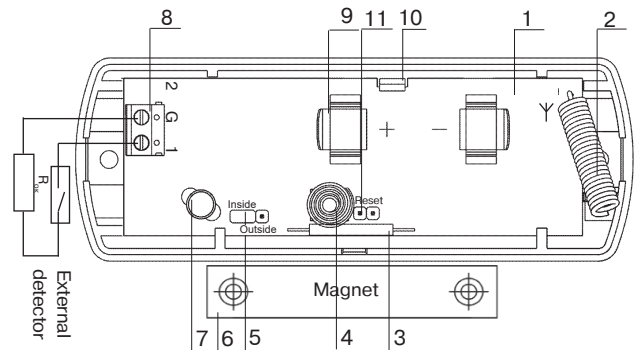

Figure 1 – «Ladoga MK-RK» ver. 3
8.1 Jumper (pic. 5, fig. 1) is in the «OUTSIDE» position. Only «G 1» line is controlled, the position of the built-in reed switch is ignored.
9.2 Install the PCB, connect the wires of monitored loops to terminal blocks (8) and close the cover. The length of the loops must not exceed 5 m. Install the terminal (EOL) resistor R_{term} (5.1 k Ω) at the end of the loop as shown in Figure 1. The connections must be soldered or screwed.